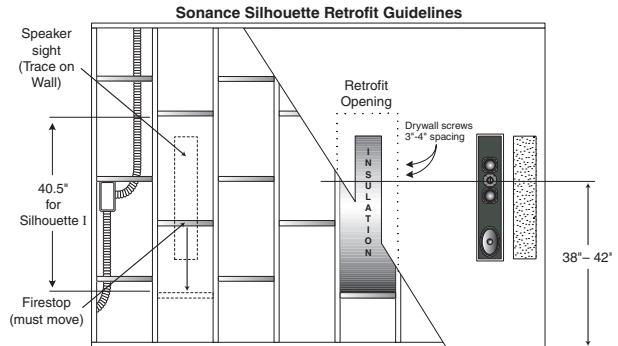

Figure 8: Retrofit construction for Sonance Silhouette speakers.
3. Position and temporarily attach the cardboard cut-out template from packaging with painter's tape or a stapler and a level. Trace a cutout hole on wall for each speaker (Figure 8). Remove template.